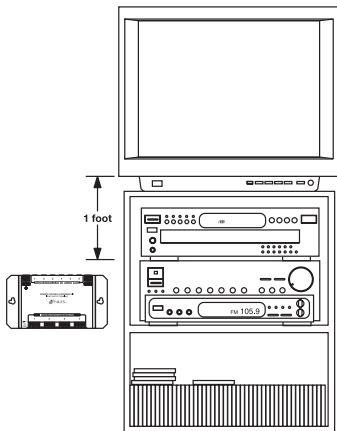

Figure 1 Connection Hub Placement
*Never place the connection hub closer than 1' away from a television set (**Figure 1**).*